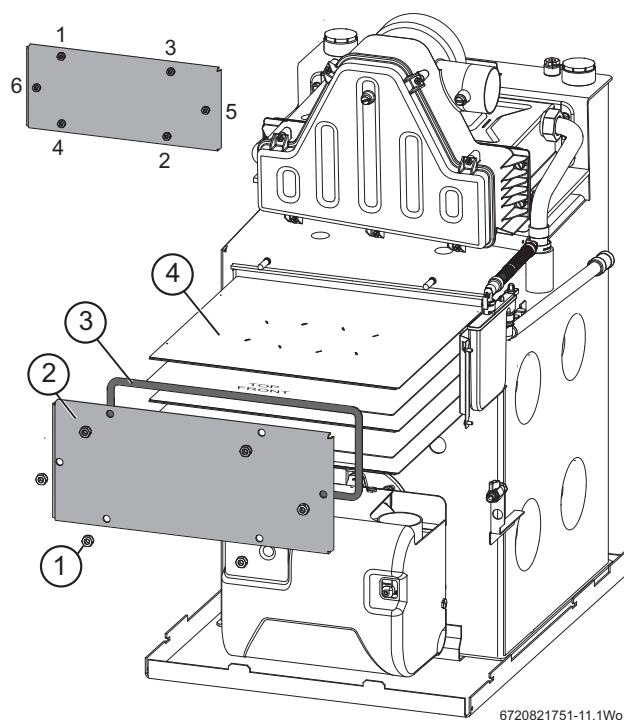

Fig. 32
Refer to figure 32
- IMPORTANT:** Secure with nuts and washers [1] and tighten gradually in a rotating sequence, as shown in figure 32. Do not over tighten the nuts.